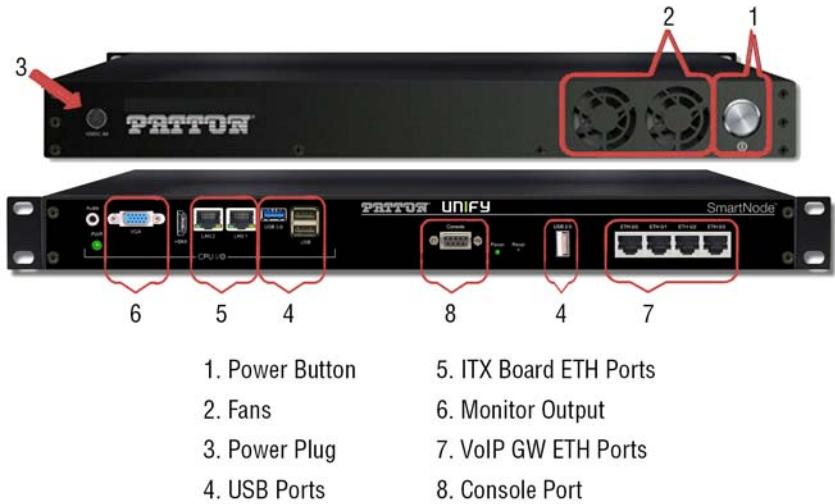

Figure 1. SmartNode OpenScope Business Appliance basic connections
1. Plug the power adapter into the power connector on the back of the unit (see figure 1).
5. Push the power Button at the back of the unit once (see figure 1).